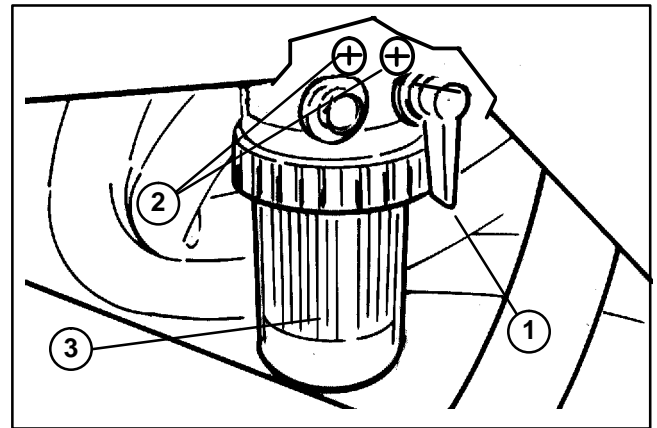

Figure 10
3. Open fuel shutoff valve (1) located under the fuel tank and on the fuel filter (Fig. 10).
4. Open both bleed screws (2) located on the side of the fuel filter mounting head. Allow bowl (3) to refill with fuel. Close bleed screws when the bowl is filled (Fig. 10).